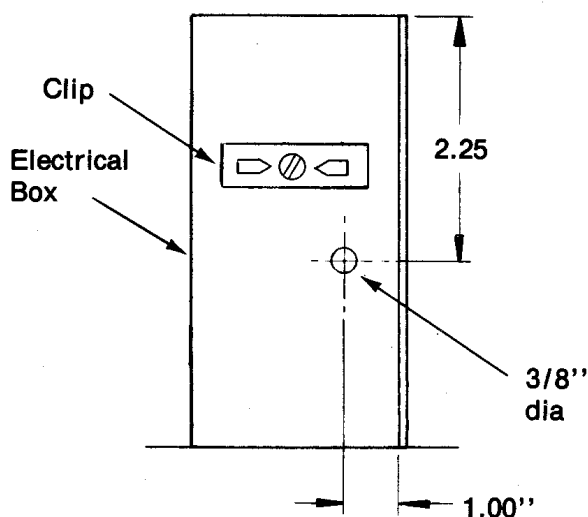

Figure 1
2. Open electrical box. Remove capacitor from clip. Drill 5/16" dia. hole in electrical box. See Figure 1 for hole location.